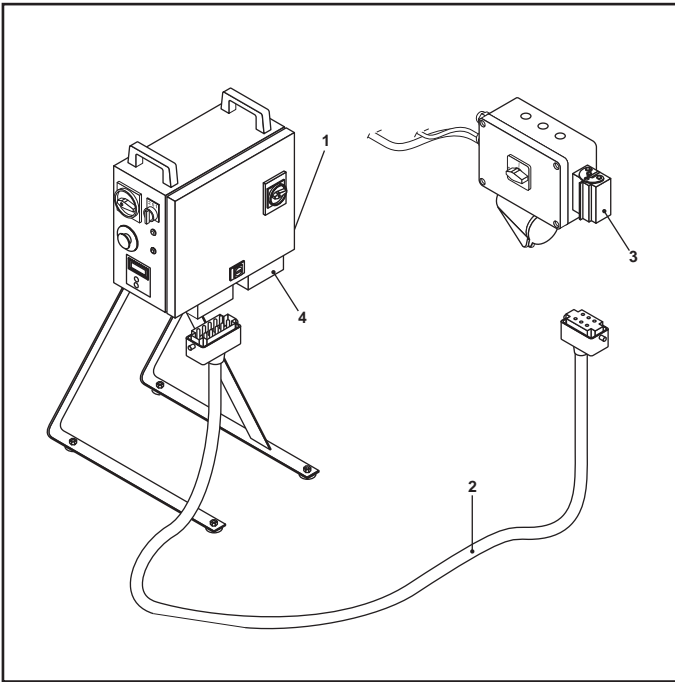

FIG.16
- Connect the electric power supply cable to the electric control board socket (FIG.16-REF.1).
- Connect the supplied electric cable (FIG.16-REF.2) to the electric control board socket inside MINI AVANT VARIO (FIG.16-REF.3).
- Connect the remote control to the socket (FIG.16-REF.4).